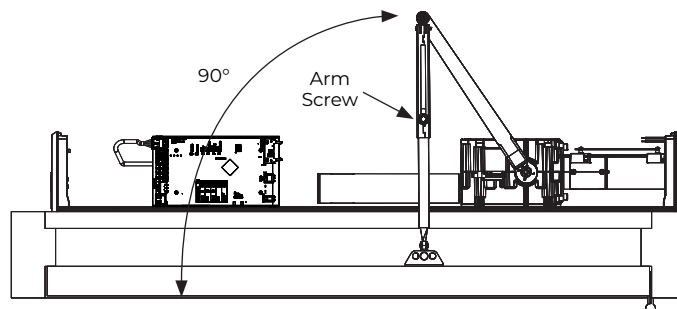

Figure 13 View: Looking up from floor
3. With door fully closed, rotate main arm toward latch edge of door until arm tube is at 90° angle (perpendicular) to door. (Figure 13)
4. Use arm screw provided with main arm to secure tube to forearm rod. (Figure 13)